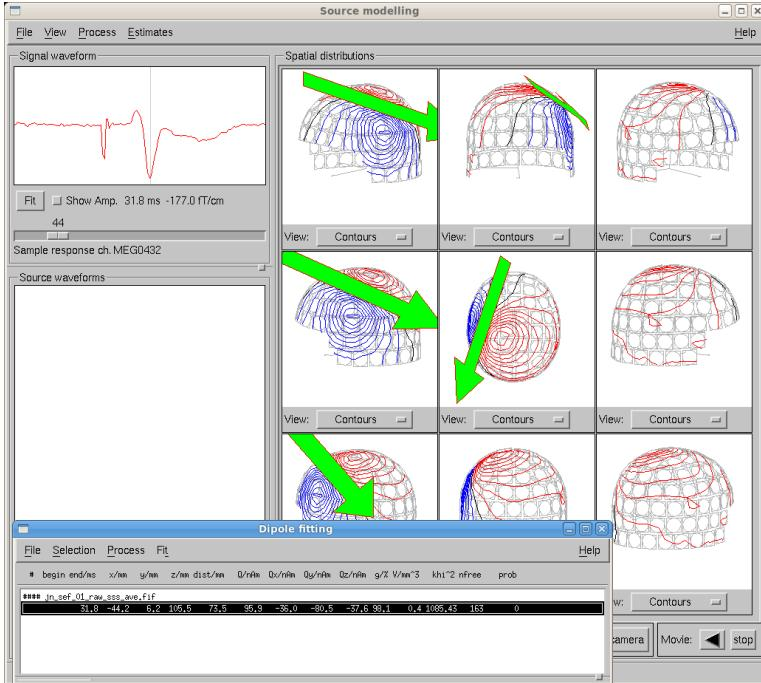

Figure 34: *Xfit* single dipole fitting at the 31 ms peak of somatosensory evoked responses, after selecting the channels on the left hemisphere.
- View the **Signal waveform** in the upper-left corner of the main window (Figure 34).
- A Dipole fitting window will appear containing all the location and statistical parameters of your dipole (Figure 34).
- (1) Time point or time range where the dipole was fitted.
- (2) Cartesian x-, y- and z coordinate of the source estimate.
- (3) Distance of the dipole from the sphere model origin.
- (4) The dipole moment [nAm].
- (5) x, y and z-components of the dipole moment vector.
- (6) Goodness of fit (g-value), or how large fraction of the variance of the measured data is accounted for by the dipole.
- (7) Confidence volume within which the dipole should lie with 95% certainty (sphere model).
- (8) Khi-square ( $\chi^2$ ) statistics and the number of degrees of freedom of the sphere model.